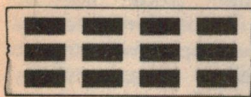

Fig. 6
3. Pack more magnetic material into a given tape coating—increase proportion of magnetic material (Fig. 6).